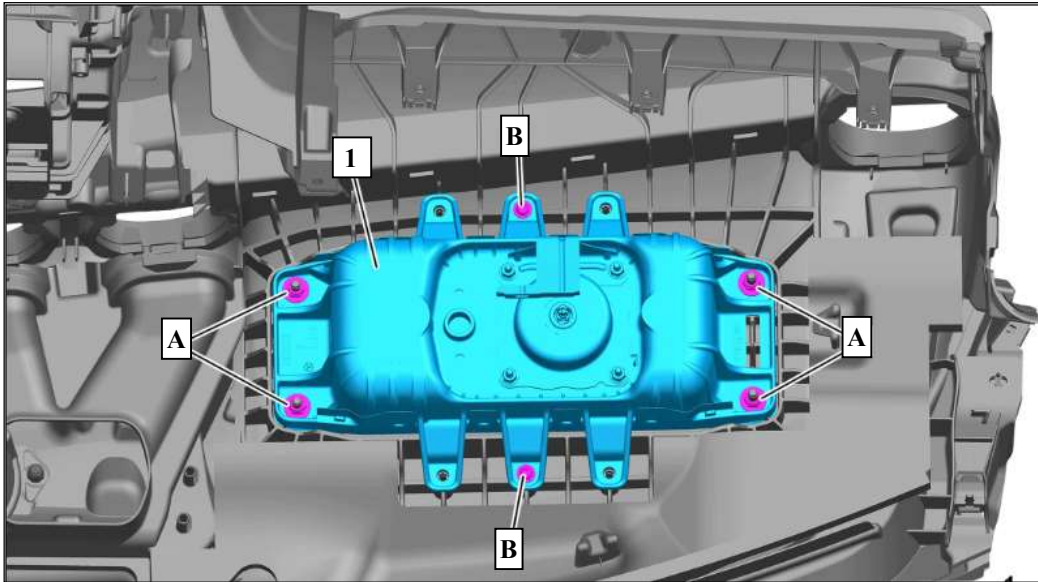

Figure 1
2. Loosen the nuts and screws for the front passenger side airbag (**Figure 1, 1**), and torque to spec.
Nm Loosen and torque the four nuts (**Figure 1, A**) to **5 Nm**.
Nm Loosen and torque the two screws (**Figure 1, B**) to **4 Nm**.